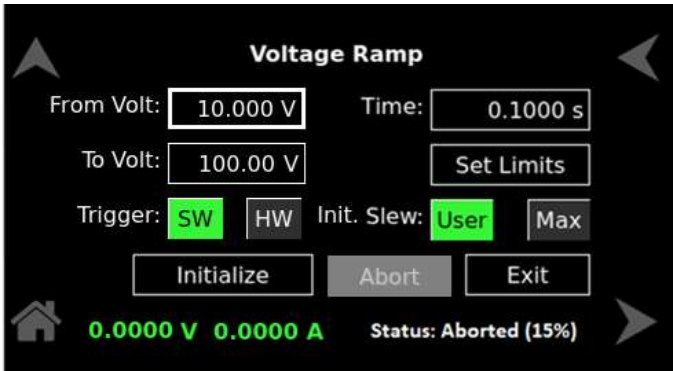

Figure 8-63. Status – Aborted
e) **Aborted:** When the process is aborted (Initializing, Waiting for Trigger, Running), 'Aborted' is displayed in the status. Refer to Figure 8-63.